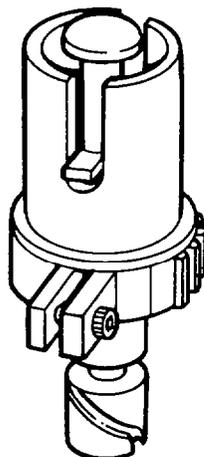

Fig. 103 — Assembling Segments
- t. Insert the delivery valve (part of item 63) to its respective valve body.
- u. Assemble the greased sealing gaskets (item 66) with the bevelled side down, to the delivery valve retaining nuts (item 67).
- v. Install the springs (item 64), holders (item 65) and nuts (item 67). Torque the nuts (item 67) to 80 – 90 Nm (60 – 65 lb.ft) for cadmium plated original finish or 115 – 120 Nm (85 – 90 lb.ft) for black oxide original finish.
- x. Position the control rack (item 73) at the mid travel point and assemble the segment gears (item 29) and screws (item 28) to the control sleeves (item 27) as follows:
1. Hold the control sleeve (item 27) upright and face the positioning holes.
2. Assemble the segment gear (item 29) to the control sleeve (item 27), aligning the gap in the segment gear with the hole of the control sleeve flange which is closest to the cut-out in the sleeve as shown in fig. 103 and with the segment screw (item 28) positioned so as to have the head of the screw (item 28) towards the governor end of the pump.